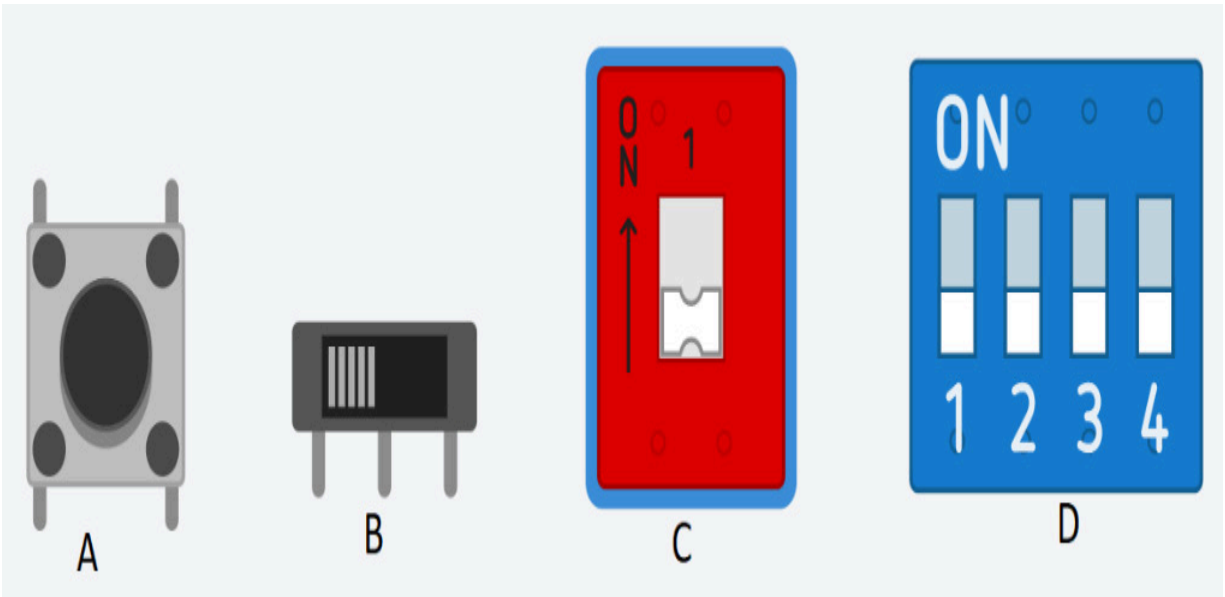

Figure 7.1 – Various types of switches – (A) push button, (B) slide switch, (C) DIP DPST switch, and (D) DIP SPST switch x 4
The basic principle behind push buttons is to control the current's flow through pushing or pressing motions. A switch is considered on when it allows the flow of the current, so the circuit will be closed. In the off state, it breaks the current's flow, so the circuit will be open. There are various types of switches, as shown in *Figure 7.1*:
The buttons mentioned in *Figure 7.1* can be used for various activities, as follows:
- **Dual In-Line Package (DIP) Double Pole Single Throw (DPST)** switch: The DIP specifies how a switch is grouped, as shown in *Figure 7.1 (C)* and *Figure 7.1 (D)*. DPST can separate power and ground and has an application in central power units. Here, poles refer to the number of connections in a switch. Throw refers to the position. Single throw means the position.
- **DIP Single Pole Single Throw (SPST):** DIP SPST is like DPST but with the difference being the number of devices in the input and output terminals. An SPST switch can only relate to one input and can only provide one output. As shown in *Figure 7.1 (D)*, the four SPST switches are formed in DIPs, which is why DIP SPST switch x 4 has been specified. In xN, N represents the number of switches available in a DIP.